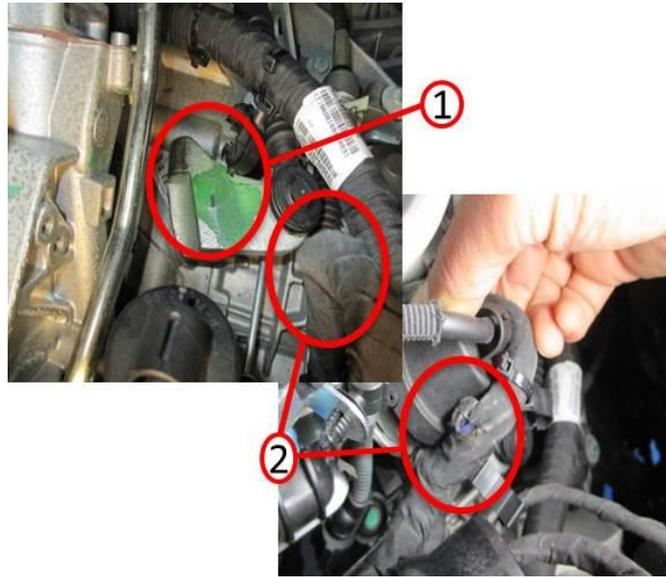

Fig. 3 Contact Areas
2. ****This step applies to Sales Code NBC only.**** Inspect the wiring harness at these locations for rub through or chaffing of the wires (Fig. 3) & (Fig. 4).